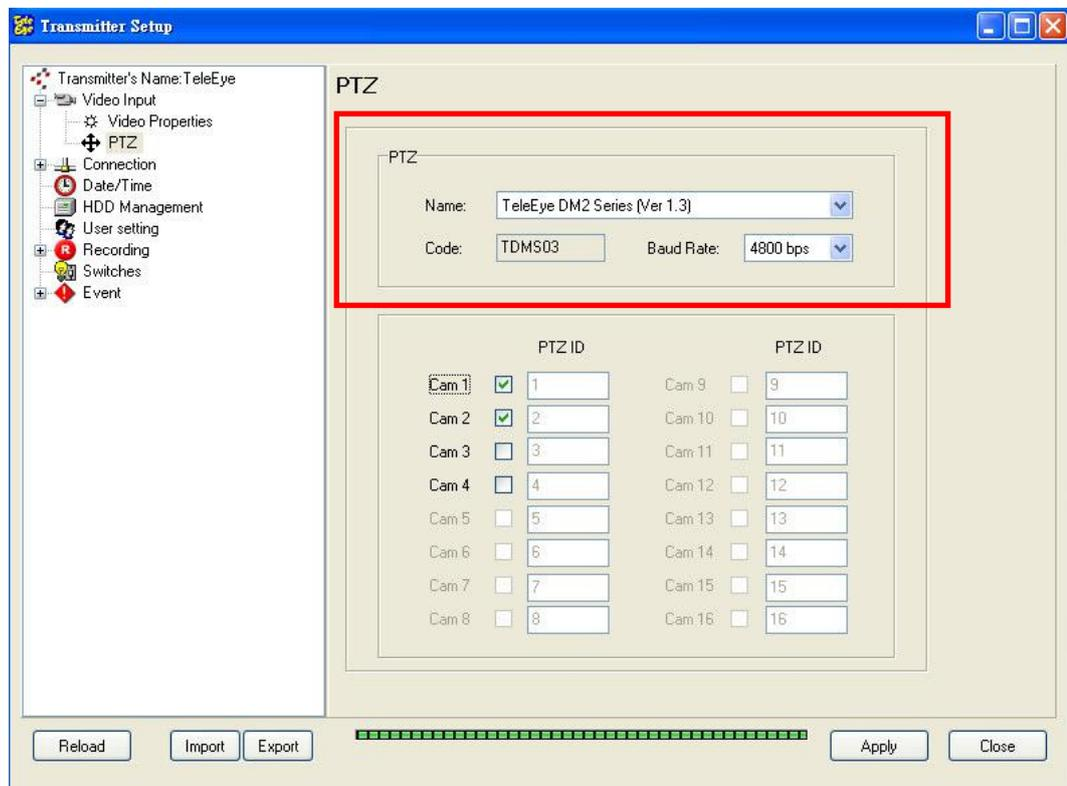

Fig 9.1a
Step 1 : Click [Transmitter Settings] icon on the main panel and input the administrator password to pop up {Transmitter Settings} panel as shown on Fig 9.1a. Choose [Video Input]→[PTZ] option to do the PTZ camera settings.